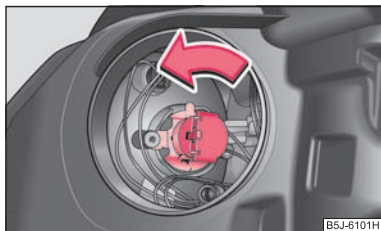

Fig. 170 Removing the light bulb for the main beam light
- Turn the connector with the light bulb up to the stop towards the left ⇒ fig. 170 and remove.